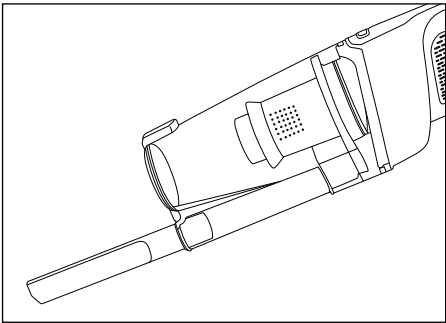

Fig. 5
5. Replace the floor nozzle with the crevice tool for cleaning baseboards, ceilings and small spaces (Fig. 5).